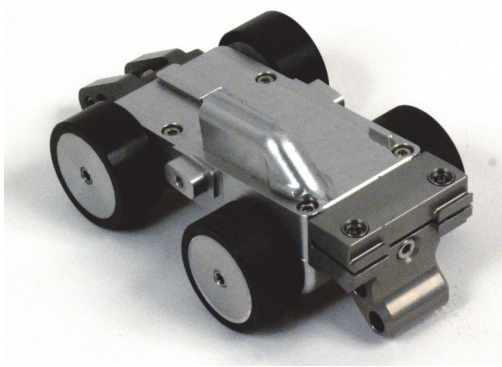

Figure 2-4 The main module without the encoder umbilical cable
4. Remove the encoder umbilical cable (see Figure 2-4 on page 37).